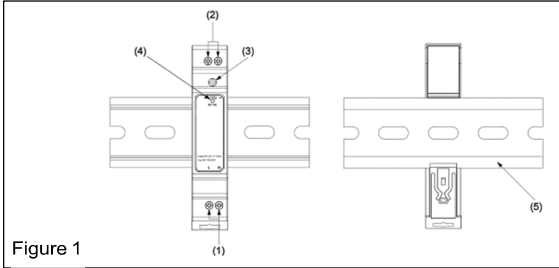
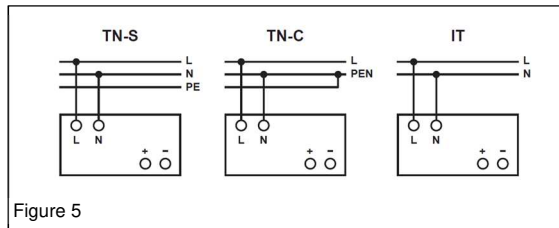

Figure 1
Figure 5
## 2. Device description (Fig. 1)
### 5.1. Input connection (Fig. 1 (1), Fig. 5)
Use L and N connections of input terminal connector (see Fig. 1 (1)) to establish the 100-240 VAC connection. The unit is protected with internal fuse (not replaceable) at L pin and it has been tested and approved on 20A (UL) and 16A (IEC) branch circuits without additional protection device.
### 5.2. Output connection (Fig. 1 (2))
The green LED DC OK displays correct function of the output (Fig. 1 (3)). The device has a short circuit and overload protection and an over voltage protection limited to < 36 VDC.